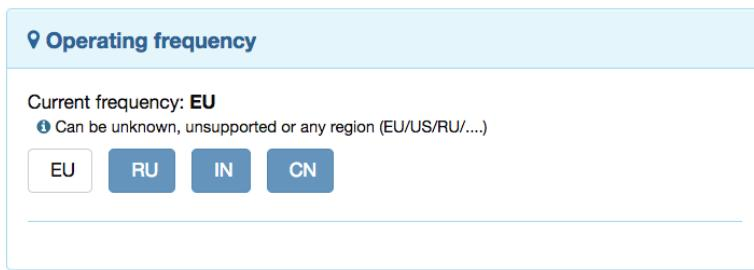

Figure 2.3: Frequency Change Option in **Z-WAVE EXPERT USER INTERFACE**
1. If you use **Z-WAVE EXPERT USER INTERFACE**, just choose the frontend on **[Network] > Management** as shown in the figure 2.3. For more information about this **Z-WAVE EXPERT USER INTERFACE**, please refer to chapter 7.
1. If you use **Z-WAVE EXPERT USER INTERFACE**, just choose the frontend on **Network > Management** as shown in the figure. 2.3. For more information about this **Z-WAVE EXPERT USER INTERFACE**, please refer to Chapter 7.